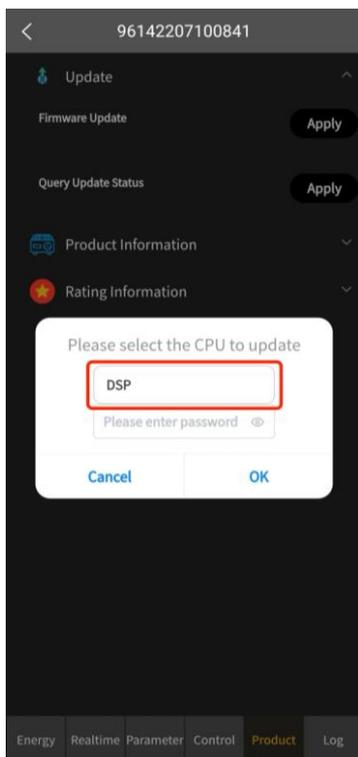

Figure 1
- (1) If the inverter does not upload the firmware, a warning dialog will pop up. Please contact the supplier to upload the firmware.
(2) For the first update, the update pop-up dialog is shown below.
(3) If not the first update, the latest updated CPU will be indicated in the column as shown in below figure.
- Click the selection box marked in red in Figure 1 to list the drop-down box option. Select the CPU to be updated. In the example shown in Figure 2, DSP is selected.